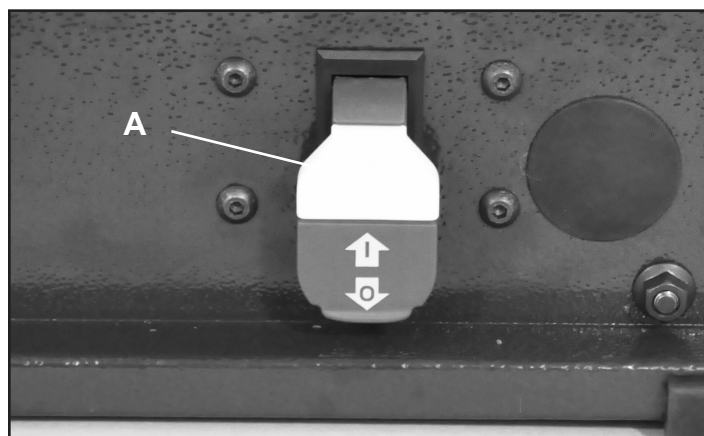

FIG. 11
This jointer is also equipped with a special lockout toggle switch that prevents unauthorized use. To prevent unauthorized use of the jointer, simply pull out the yellow key (A) located on the face of the switch. FIG. 11.